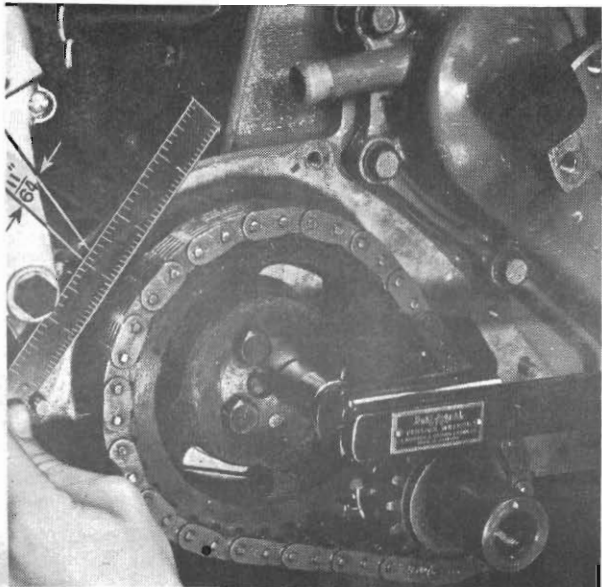

Fig. 25 - Measuring chain stretch (typical view)
(3) Holding a scale with dimensional reading even with edge of a chain link, apply torque in the reverse direction 30 lbs. ft. (cylinder head installed) or 15 lbs. ft. (cylinder head removed) and note the amount of chain movement (Fig. 25).
(4) If the chain movement exceeds 11/64" install a new timing chain.
(5) If the chain is satisfactory, slide the crankshaft oil slinger over shaft and up against the sprocket (flange away from sprocket — where removed).
(6) Continue procedures as described in para. 12.